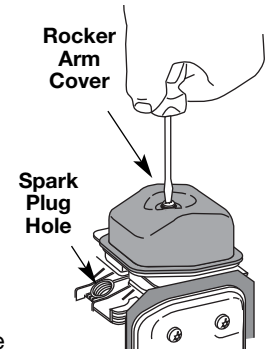

Fig. 35
10. Clean dirt from around the rocker arm cover. Remove the screw holding the rocker arm cover with a large flat blade screwdriver or Torx T-25 bit (Fig. 35). Remove the rocker arm cover and gasket.